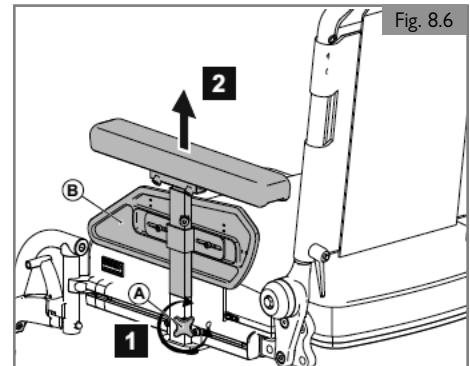

Fig. 8.6
8.5 Single post removable armrest**Removing the armrest assembly (Fig. 8.6)**